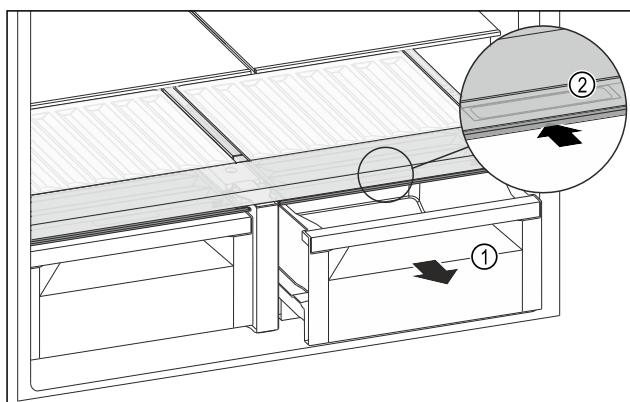

Fig. 123
- ▶ Pull out the drawer Fig. 123 (1).
- ▶ Grasp the recessed grip Fig. 123 (2) on the compartment lid and push the compartment lid backwards at the same time.